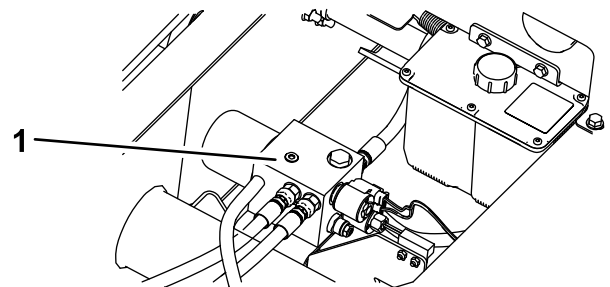

Figure 13
3. Place a large drain pan under the hydraulic-manifold block (Figure 13).